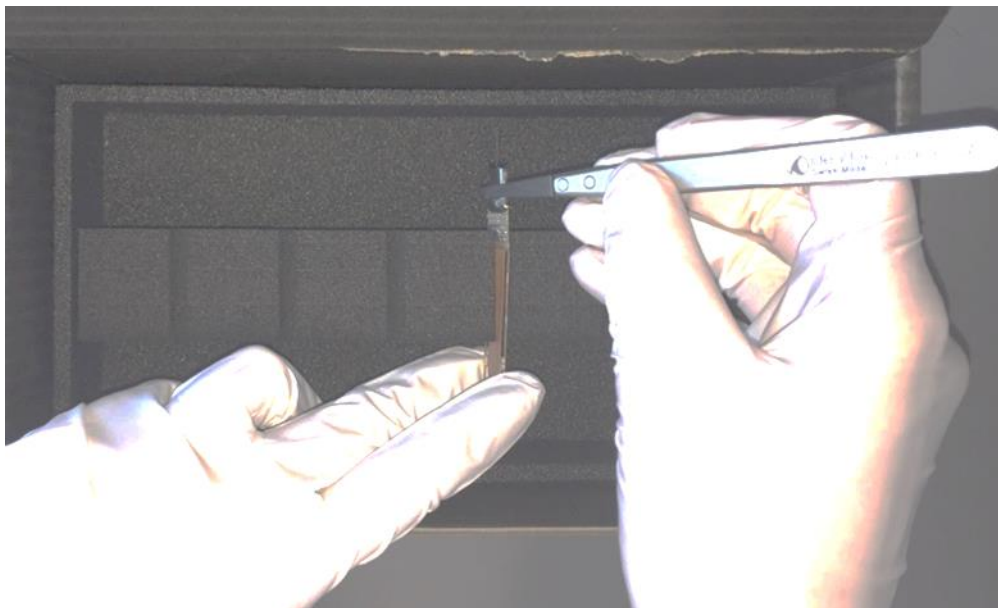

Figure 40: Removing the probe from the shipping box.
- Hold the ZIF end of the flex with your other hand and keep it straight. Slightly wiggle the base of the probe upwards while pulling the flex along with it. Like this, the flex can smoothly slide out of its slot without getting stuck (Figure 40).